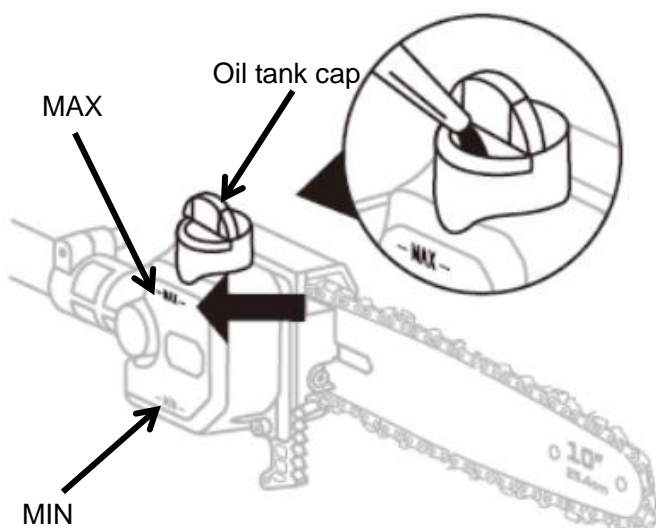

Fig.14
3. Fill the oil tank with chain oil. The oil level should be above the “MIN” limit and below the “MAX” limit. (Fig. 14)